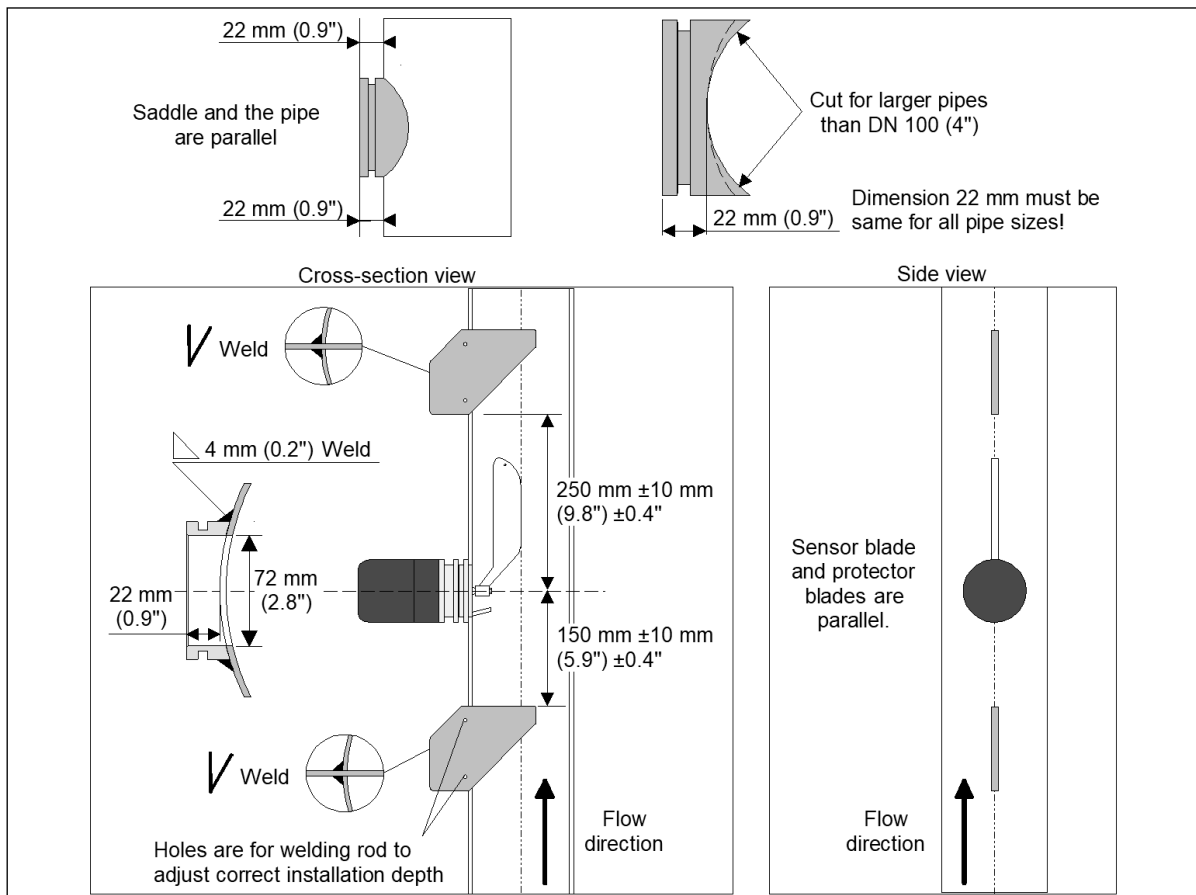

Figure 2.4. Standard blade ST installation. Mounting of the saddle and protector blades.
2. Cut a hole  $\text{Ø}72 \text{ mm}$  (2.8") in the pipe as shown in figure 2.4. To prevent fiber debris from collecting on the edge of the cut-out, ensure that the edges of the hole inside the pipe are ground smooth. Fiber and or debris collected at this point can interfere the measurement.
Blade transmitters need protector blades (included in delivery) before and after the sensor blade. This is necessary because during shut downs pulp may dry out and dry fiber plugs may form. When the pump is re-started damage to the sensor unit may occur when these plugs start moving in the line. The protector blades protects the sensor unit from mechanical damage from up or downstream flows that come from dewatered pulp, knots and other stream projectiles hitting the blade. The installation of the protector blades are shown in figure 2.4.